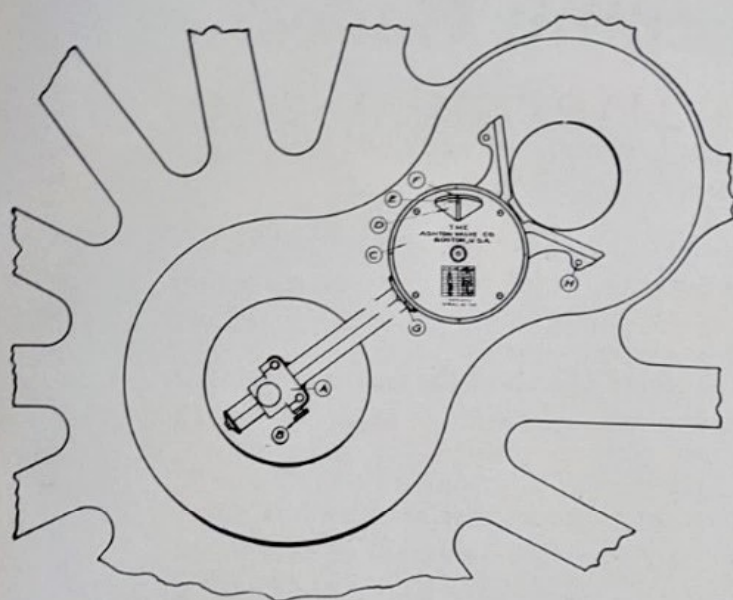

Fig. 1
The present old and unreliable method of using plumb lines and straight edges, or removing wheels and transporting them to a quartering machine, wastes valuable time which can be saved by using the Ashton Gage. A mechanic can readily test pins for quartering in any position of the drivers without removing them from the frames, requiring but a few minutes per pair of wheels (Figure 1), whereas the old method takes a mechanic and helper several hours.
The gage is operated in the following manner (see Figure 1). The slide (A) is first adjusted to the stroke, the hemispherical center fitting the axle center hole with the center is taken care of by adjustment at (B). The casing (C) is then revolved until the hand appears in the opening at (D). Align the hairline (E) on the hand with hairline (F) on the casing. The gage may then be removed and a reading taken from the scale and vernier at (G). This operation is repeated on the other side, and if the sum of the two readings is more or less than 90 degrees the pins are out of quarter. The deviation from the standard of 90 degrees is the error.
As shown in Figure 1 the gage is drilled at (H) providing a means of suspending the gage from the pin by the use of a coil spring or strap.